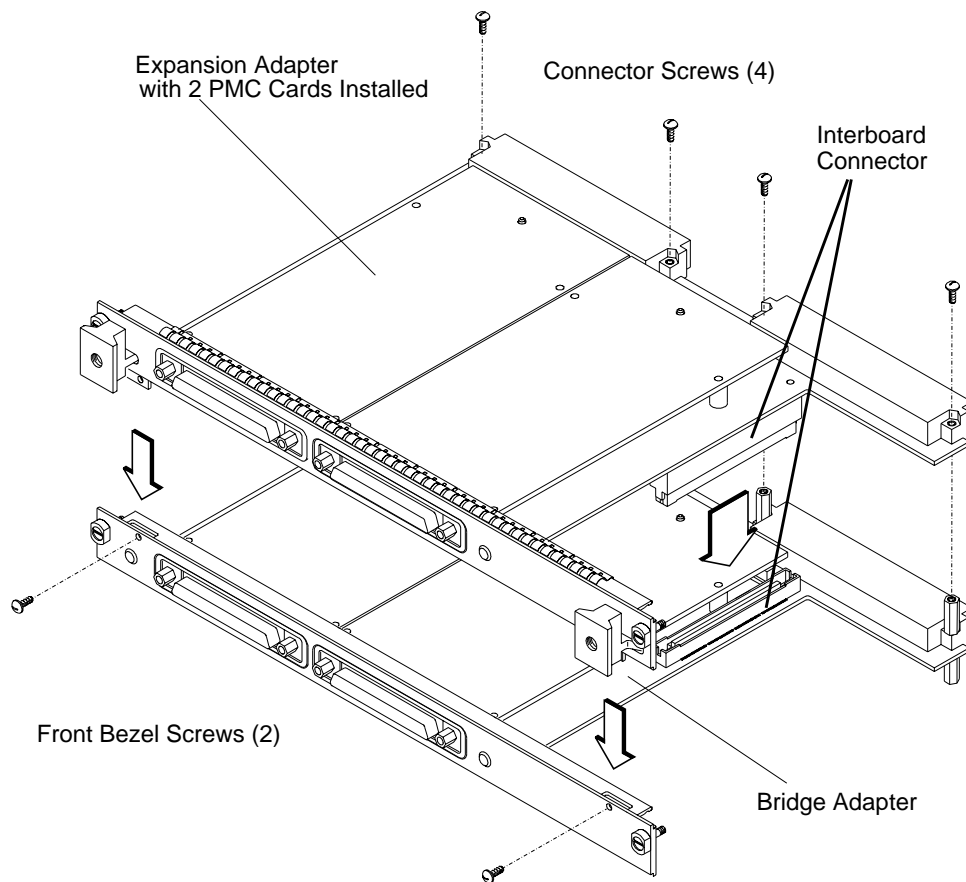

Figure 8 Installing the Expansion Adapter onto the Bridge Adapter
- 16** Making sure that the connector and bezels are properly aligned, install the PMC expansion adapter onto the bridge adapter, as shown in Figure 8. Ensure that the interboard connector seats properly by applying pressure to the top of the expansion board and to the bottom of the bridge board at the interboard connector. There are two screws that secure the front bezel and four screws to secure the VMEbus connectors.